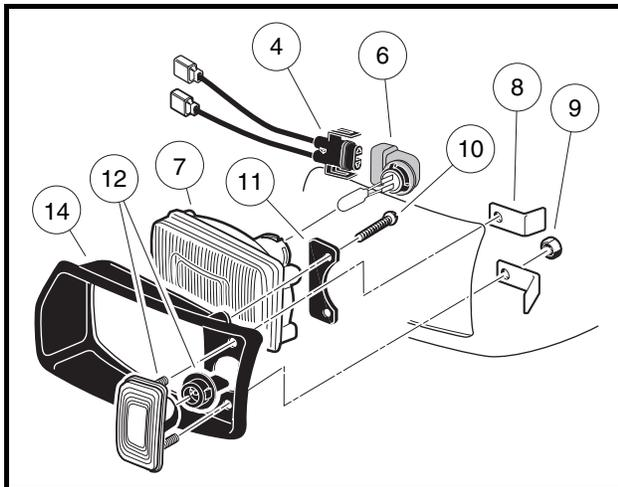

Figure 12a-10 Headlight Assembly
3. From the front of the vehicle, reach under the cowl and turn the wire harness/halogen bulb assembly (4 and 6) clockwise one-quarter turn (**Figure 12a-10, Page 12a-12**).
4. Remove the wire harness/halogen bulb assembly (4 and 6) from the headlight lens (7).
5. Lift the retaining tabs on the connector (4), and remove the halogen bulb assembly (6).
1. Connect the wire harness (4) to the halogen bulb assembly (6). The retaining tab should lock onto the halogen bulb assembly (**Figure 12a-10, Page 12a-12**).
2. From the front of vehicle, reach under the cowl and insert the wire harness/halogen bulb assembly (4 and 6) into the headlight lens (7).